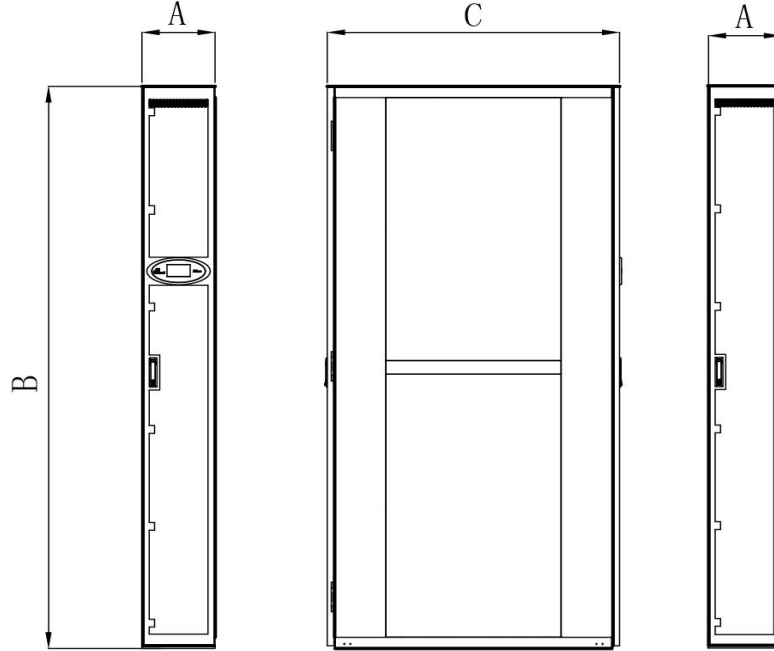

Fig. 2-1 Schematic diagram of the overall dimensions of the indoor unit
- For the outline dimensions of the unit, please refer to Fig.2-1 and Table 2-3.